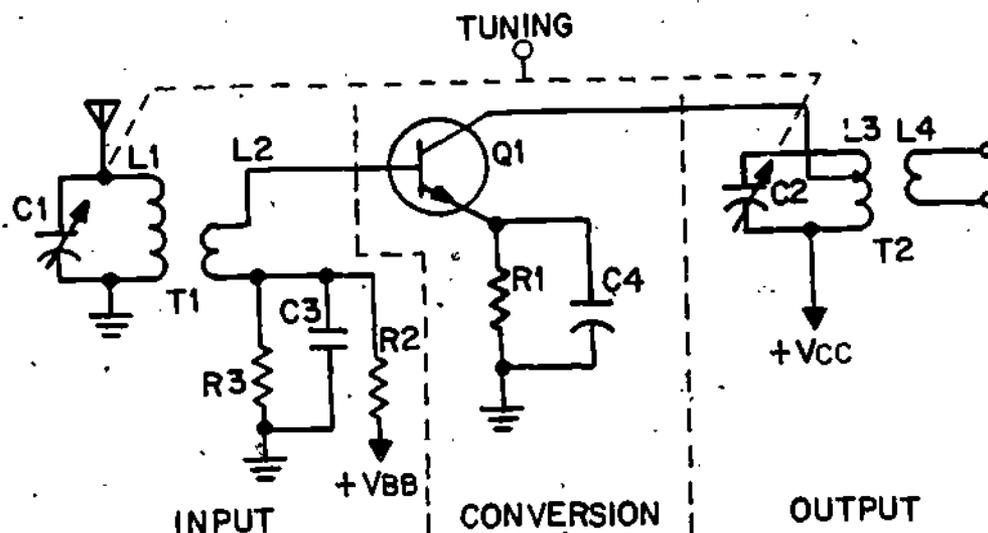

Figure 19
- (21) The circuit shown in Figure 19 is a typical RF amplifier input stage in a broadcast band radio receiver.
In Figure 19, R2 and R3 form a voltage divider to provide forward bias for Q1. C3 places the bottom of L2 at RF ground potential and ensures all signal development is across L2. T1 is a step-down transformer with the low impedance winding L2 connected to the base of Q1. This impedance match provides for maximum energy transfer between the antenna and base of Q1, and also preserves the Q of the L1-C1 tank.
22. In Figure 19, both the Q and selectivity of the tank L3-C2 are preserved in a similar manner. The collector of Q1 is connected to a tap on L3. This technique provides a good impedance match between the collector of Q1 and the tank L3-C2. Therefore maximum energy transfer occurs between the output of Q1 and the input to the following stage. Of course R1 and C4 make up the familiar emitter stabilization resistor and bypass capacitor. You should note that  $V_{BB}$  and  $V_{CC}$  often are one and the same source.
In Figure 19, the Q and selectivity of tank L3-C2 are preserved by a connection between the \_\_\_\_\_ of Q1 and a \_\_\_\_\_ on L3.